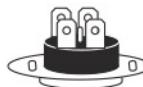

Fig. 7
Then insert bolts into the drilled holes, and, turning bolt hooks clockwise, securely tighten bolt nuts, then hang the water heater on these anchor bolt hooks (see Fig. 7).
- press the button, located at the center of the thermal switch, Fig.7;